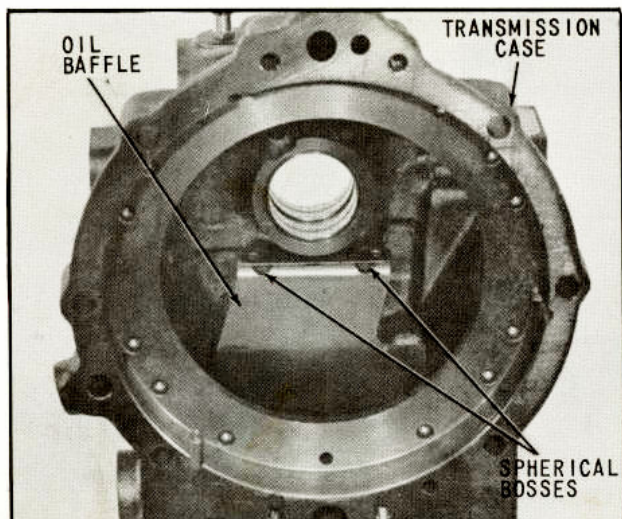

Fig. 19 Baffle Properly Installed
5. Position front end of baffle so that center of baffle rests on top of the boss at front center of transmission case and the turned down corners of the baffle are located below the cast spherical bosses at the front of transmission case. Snap baffle into position by lifting up on curved portion so that the two large holes are located firmly on the spherical bosses at rear of transmission case as shown in (Fig. 19).